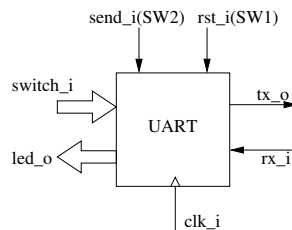

Figure 2.2: The UART.
The system clock of the zedboard is running at 100 MHz. You will need a reset-signal and a send-signal, see Figure 2.2. Both these signals are active-high.
- send exactly one ASCII-coded character from the switches of the zedboard to the PC by pressing the button BTNU switch once, see Figure 2.2.
- catch the incoming characters from `rx_i` and present the ASCII code on the LED display, see Figure 2.2.